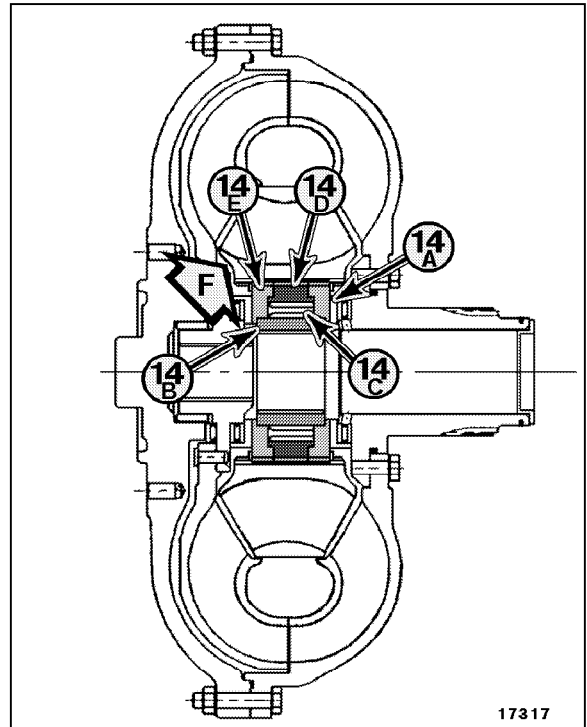

Figure 57 FREE-WHEELING STATOR HUB COMPONENTS
C. Install one clutch retainer (14A, Figure 57) in stator (11, Figure 56).
D. Assemble inner clutch race (14B, Figure 57), sprag clutch (14C), and outer clutch race (14D). Install sprag clutch assembly into stator (11, Figure 56). Sprag cage flanges must be towards "F" side of stator (11).
E. Install second clutch retainer (14E, Figure 57) in stator (11, Figure 56).